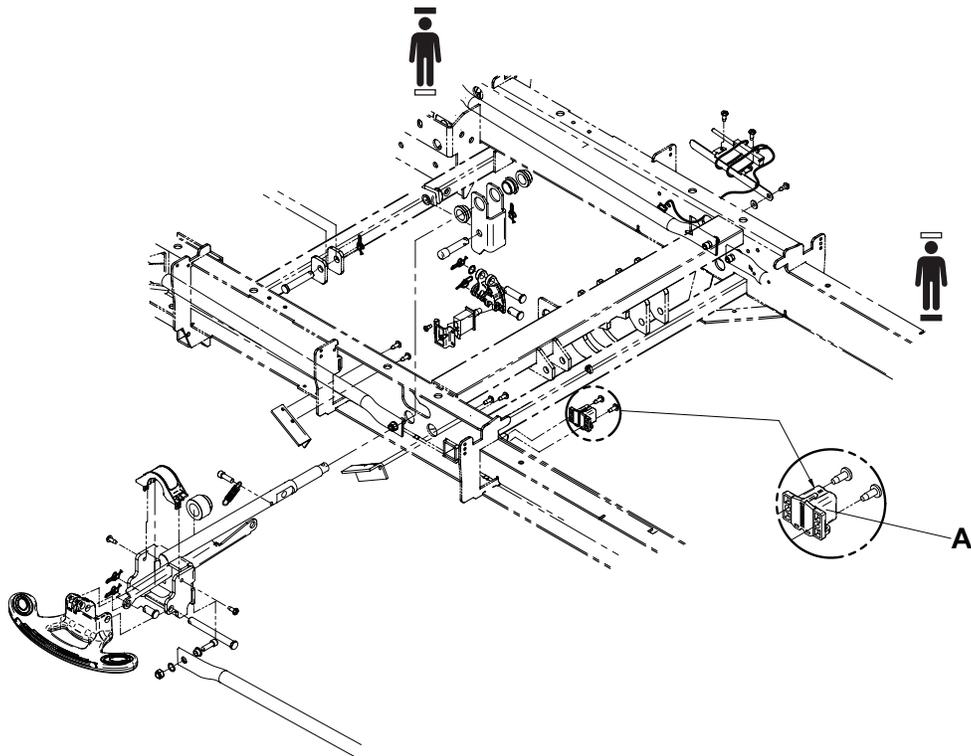

Figure 69 – Base angle sensor
5. Using a #2 Phillips short screwdriver, remove the two screws that secure the base angle sensor (A) to the base frame (Figure 69). Save the screws.